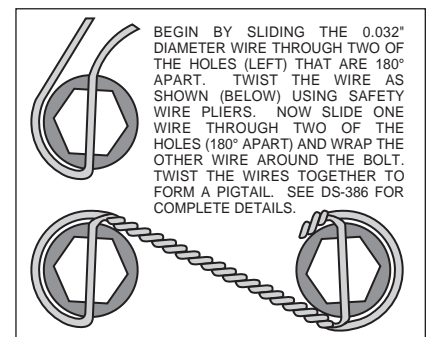

Figure 4. Safety Wire Diagram
- Slide the bracket kit assembly (1) onto the housing flange and then insert the axle assembly through the center hole of the bracket kit assembly (1). Secure using the stock Original Equipment Manufacturer (OEM) bolts and nuts. Stock OEM hex nuts that retain the bracket kit assembly (1) should be on the wheel side of the bracket. Apply red *Loctite*® 271 to the stock OEM bolt threads and torque to OEM specifications. Make sure the bracket kit assembly (1) brake pads are FACING OUTWARD TOWARDS THE WHEEL.
- With the larger I.D. side of the rotor (3) facing away from the hat (2), bolt rotor (3) to hat (2) through the backside of the rotor using washers (4) and bolts (5). Using an alternating sequence, apply red *Loctite*® 271 to the threads and torque bolts to 155 in-lb. For an added measure of security, the bolts may be safety wired using standard 0.032 inch diameter stainless steel safety wire as shown in Figure 4. Please refer to Wilwood's data sheet DS-386 (available at www.wilwood.com/Pdf/DataSheets/ds386.pdf) for complete safety wire installation instructions.